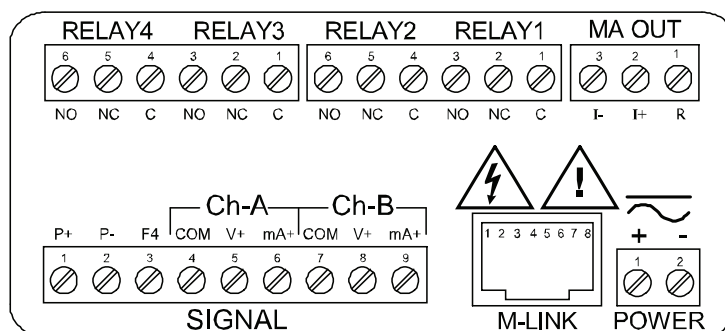

Figure 6. Connector Labeling for Fully Loaded PD6060
Isolated Transmitter Power Supply	Terminals I+ & R: 24 VDC $\pm$ 10%. May be used to power the 4-20 mA output or other devices. Refer to Figure 6 on page 12 and Figure 15 on page 15. All models rated @ 40 mA max.
Power connections are made to a two-terminal connector labeled POWER on Figure 6. The meter will operate regardless of DC polarity connection. The + and - symbols are only a suggested wiring convention.
Signal connections are made to a nine-terminal connector labeled SIGNAL on Figure 6. The COM (common) terminals are the return for the 4-20 mA and the ± 10 V input signals. The two COM terminals connect to the same common return, and are not isolated.
Serial communications connection is made to an RJ45 connector labeled M-LINK on Figure 6. For interfacing to the PROVu®, use the PDA1232 for RS-232 or the PDA1485 for RS-485. The same port is used for interfacing with all expansion modules (e.g. external relays, digital I/O).
Relay connections are made to two six-terminal connectors labeled RELAY1 – RELAY4 on Figure 6. Each relay's C terminal is common only to the normally open (NO) and normally closed (NC) contacts of the corresponding relay. The relays' C terminals should not be confused with the COM (common) terminal of the INPUT SIGNAL connector.